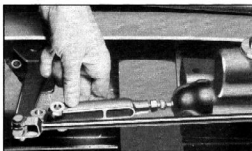

Fig. 11—Adjusting Pedal Toe-Board Clearance
2. Remove clevis pin and turn the clevis attached to the main cylinder push rod, Fig. 11, in the proper direction to secure $\frac{1}{4}$ " toe-board clearance—measurement being taken between pedal arm and underside of toe-pan.